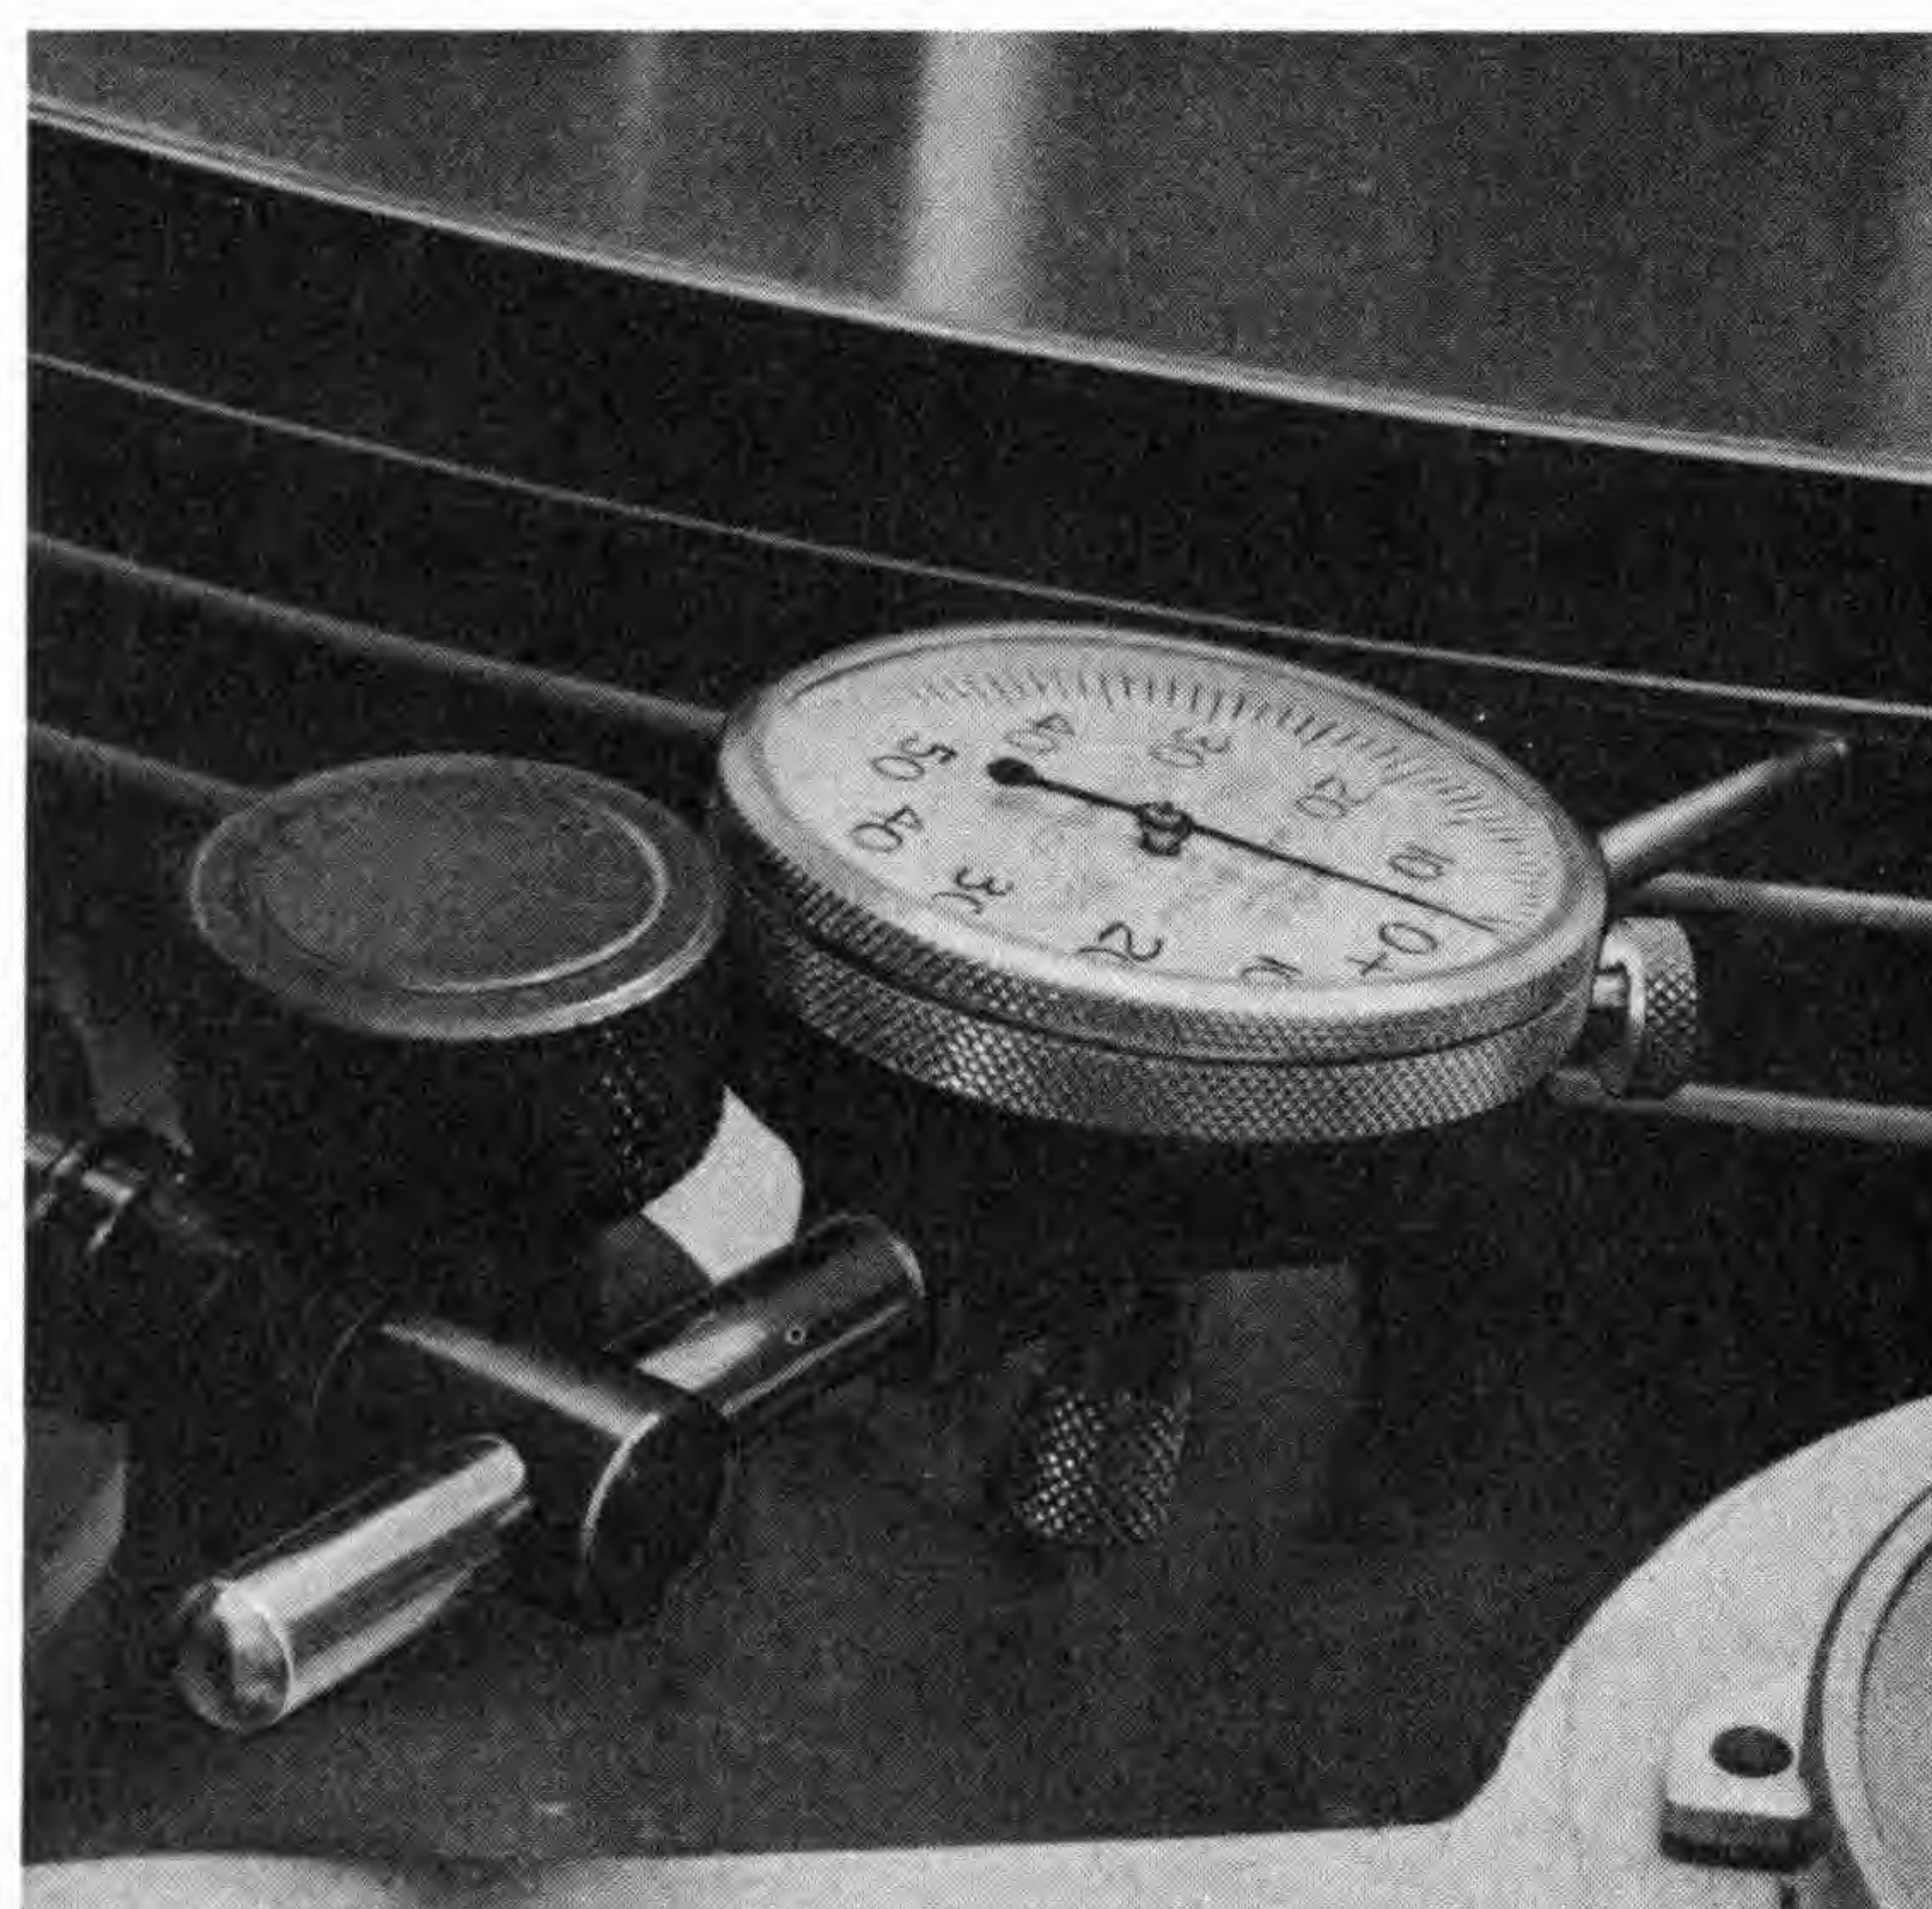

Figure 4-14. Dial Indicator Mounting
6. Check disk runout on every fifth disk with Dial Indicator from disk-aligning kit. Measure runout at  $3/16$ -inch  $\pm 1/16$ -inch from the edge of disk while turning the array manually through a full revolution. Measure runout from the bottom surface of the disk (Figure 4-14). Runout should not exceed 0.020-inch. If a disk exceeds a total indicator reading of 0.020-inch one of the lower disks or spacers may not be flat, possibly because a chip lies between the surfaces. If such a disk is found, disks beneath it should be checked to determine at which disk runout becomes excessive. The disks must then be unstacked to locate the excessive runout. If only one disk has excessive runout, then the disk runout log should be checked to see if the disk had much runout initially. If it did not, then the disks must be unstacked to locate the problem.